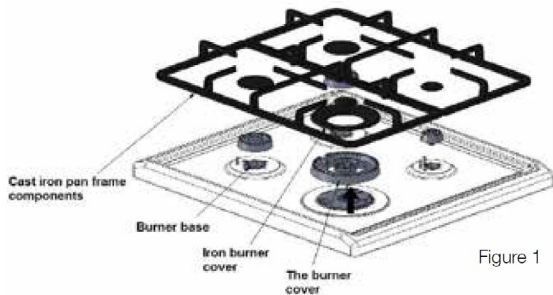

Figure 1
Remove the trivets (Refer Figure 1)
- Open the door to the full extent (fig.1);